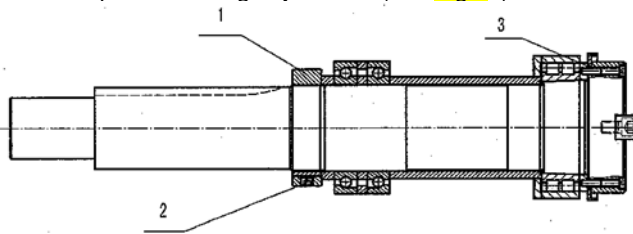

Fig 17
8.5 Spindle bearing adjustment (see Fig.17)